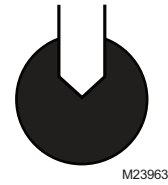

Fig. 2. Indicator Pointer Centered.
3. Continue to turn the nut until the pointer is centered over the dot. The operator is now properly installed (See Fig. 2).